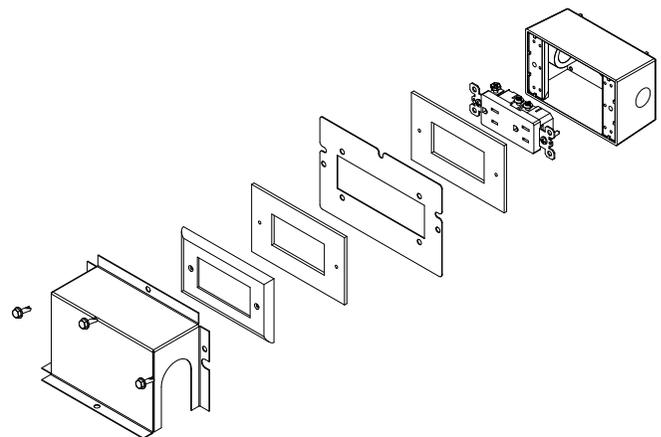

Figure 5.1. Junction box
- Disassemble junction box. See Figure 5.1.